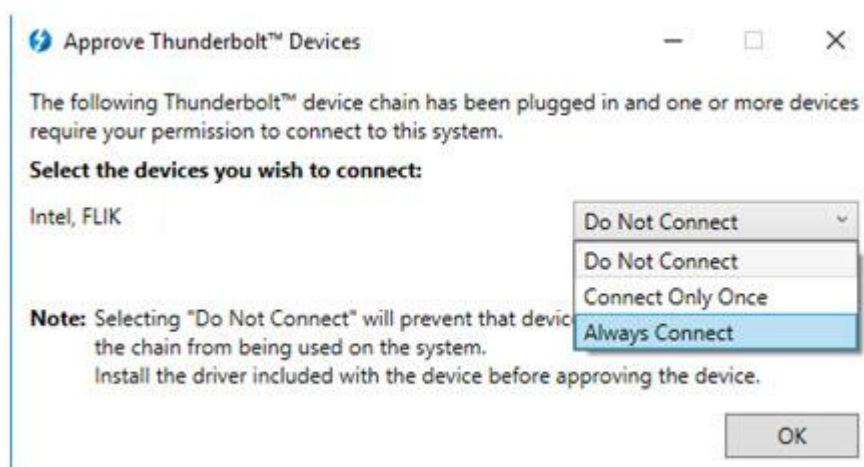

Figure 2-6 Approve Thunderbolt device window
5. A Thunderbolt Dialog window will appear as shown in **Figure 2-5** or **Figure 2-6**.